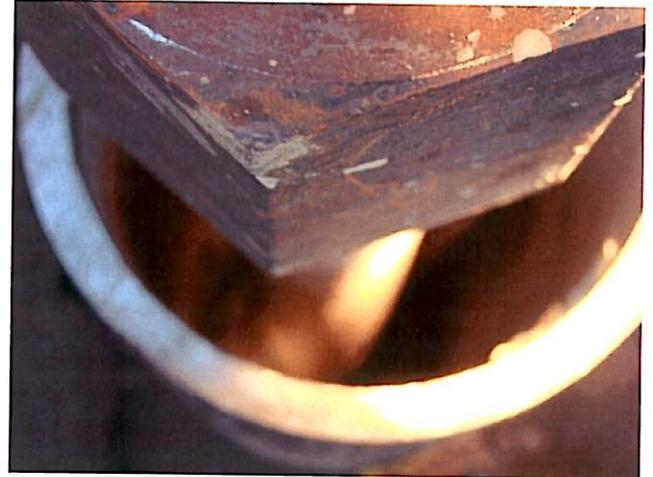

Fig 2. Checked recession after grouting
- Checked recession after grouting (see Fig 2). #2 hole has 50" from top of the casing (see Attachment #1). Let Brad and Art know about it.